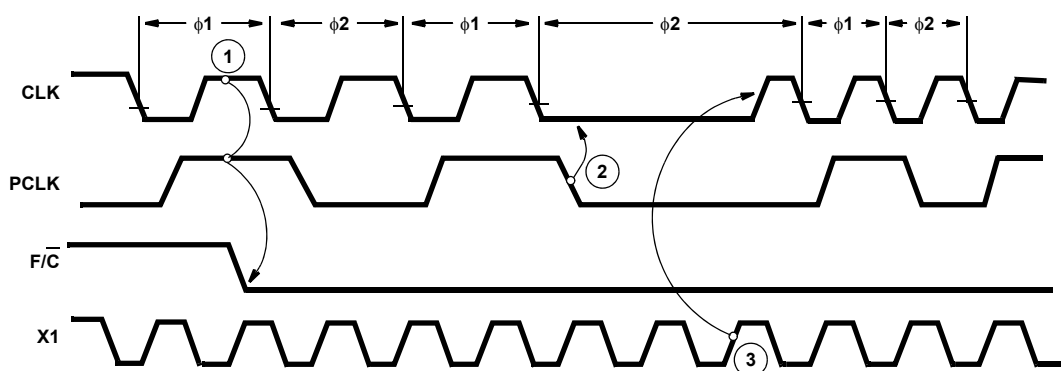

FIGURE 1A. $F/\overline{C}$ SWITCHED FROM HIGH (USING EFI INPUT) TO LOW (USING THE CRYSTAL INPUT X1)
- A) $F/\overline{C}$ switched from high (using EFI input) to low (using the crystal input X1 - see Figure 1A).